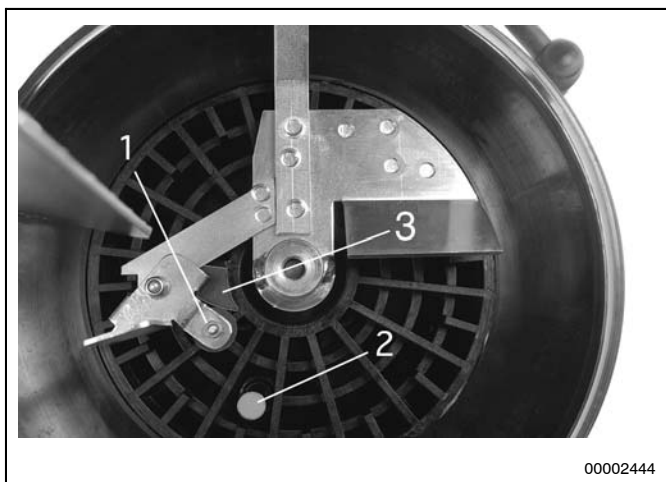

Fig. 35 Switching parts of the low-level control
1) All indications of positions refer to fig. 35.
1) All indications of positions refer to fig. 35 (page 21).